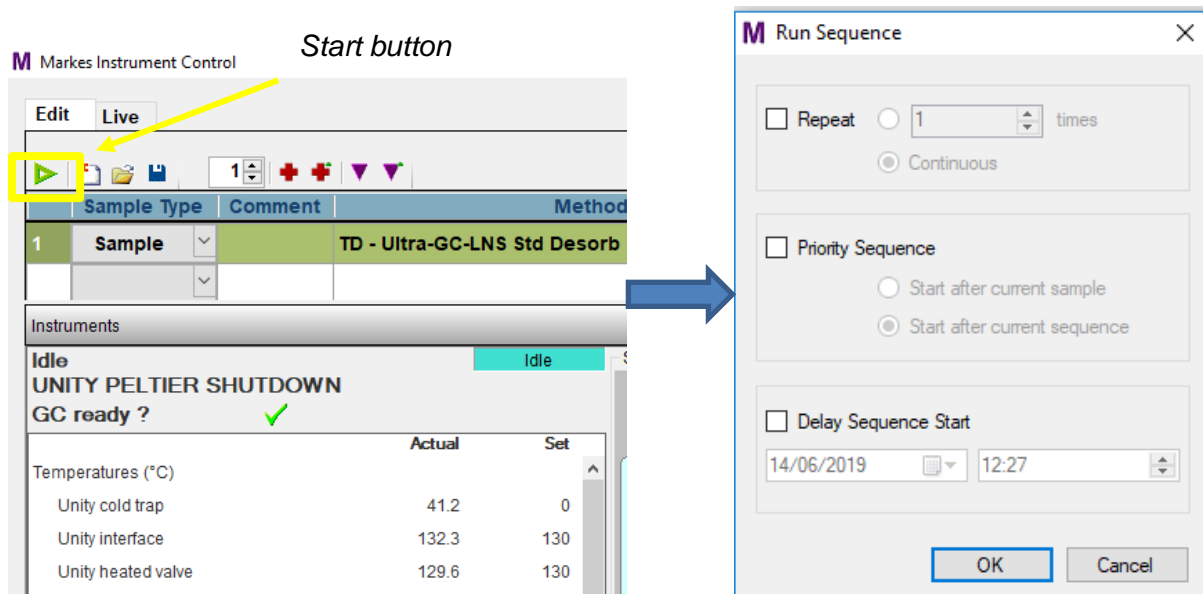

Figure 19. Press the Start button to begin the sequence run.
- 4.5.8 Click on the green Start button at the top of the Sequence Edit View (Figure 19). The “Run Sequence” window will pop up. Make sure all options are unticked and press “OK”.